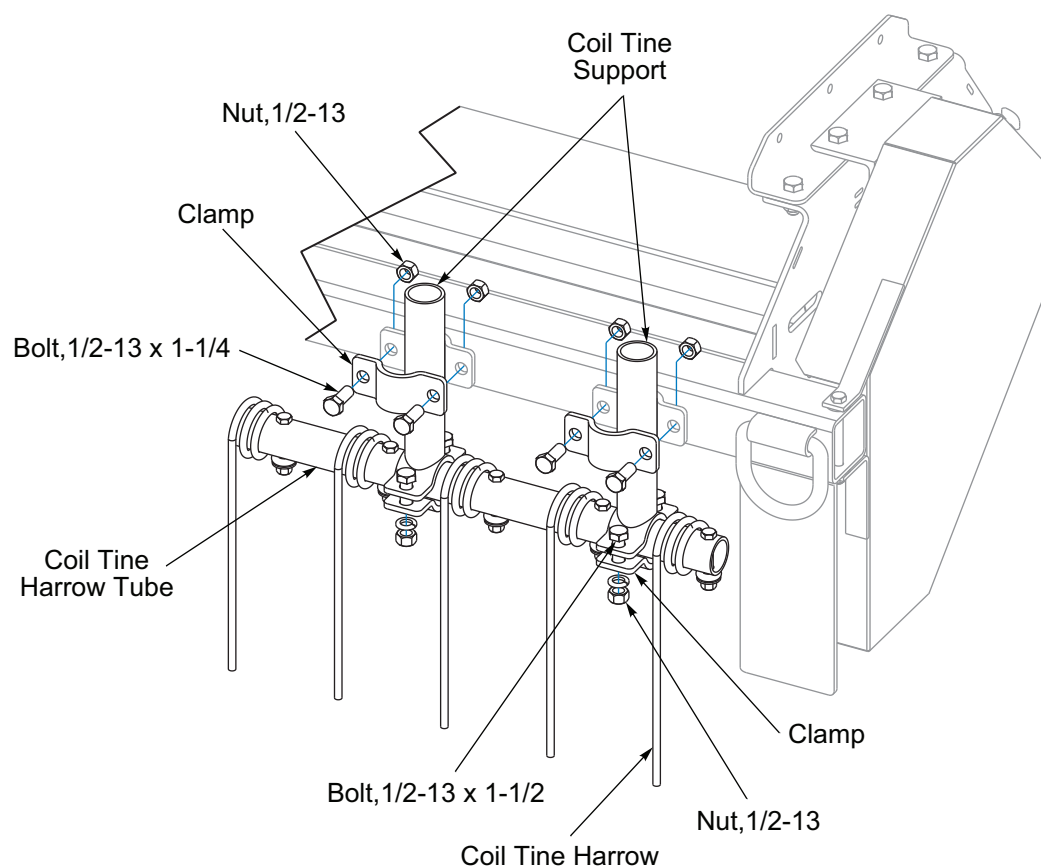

Figure 3-14: Track Remover - Optional
1. Loosen the Clamp Bolts that secure the Coil Tine Supports. **See Figure 3-14.**
1. Loosen the Clamp Bolts that secure the Coil Tine Harrow Tube to the Coil Tine Supports. **See Figure 3-14.**